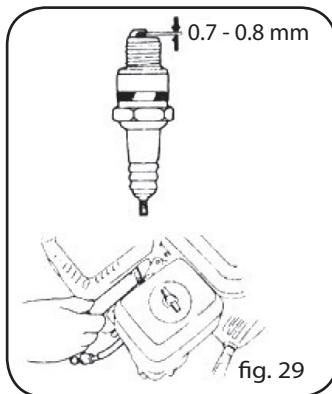

fig. 29
- c) Measure the spark plug clearance with a feeler. The clearance should be 0.7~0.8 mm (Fig.29). If adjustment is necessary, bend the side electrode carefully.